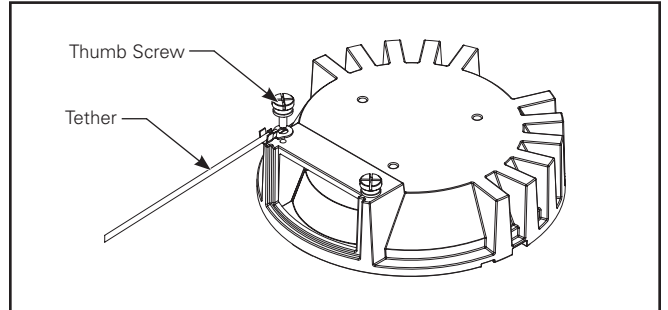

Figure 9.
5. In HCC4 and HCC6 cylinders find the green tether inside cylinder and attach it to the heatsink screw boss, using the thumbscrew provided on heatsink (Figure 9).